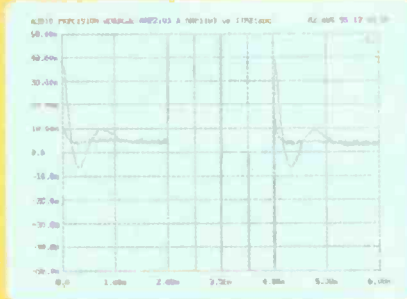
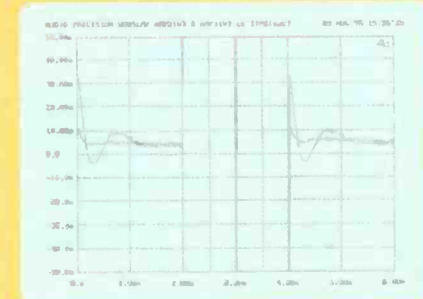

Fig.4: Bellwire at 1 kHz
Fig.11: Sonic Link mains at 1 kHz
**THE FIRST TEST** is with a 1kHz burst (Fig.4–Fig.11). In each graph, one response is almost flat. This is always the more tightly controlled response at the amplifier output. Deviations here indicate deficiencies with the amplifier's NFB control. The other,